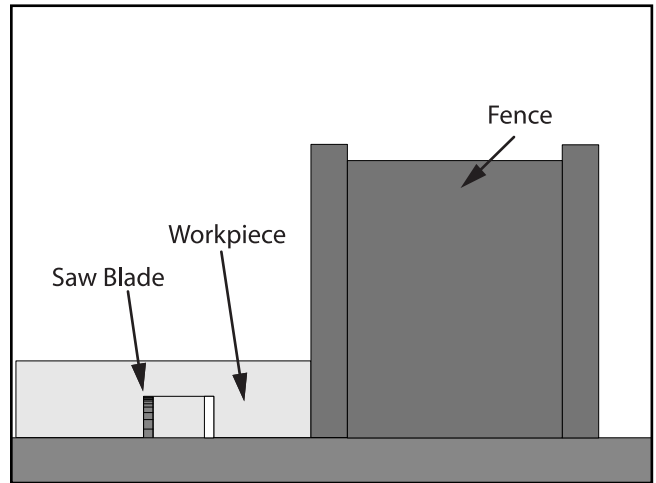

Figure 48. Single-blade dado cut.
6. Re-adjust the fence so the blade is aligned with the other edge of the intended dado channel (**Figure 48**). *Note—Be sure to keep the cuts within your marks; otherwise, the dado will be too big.*